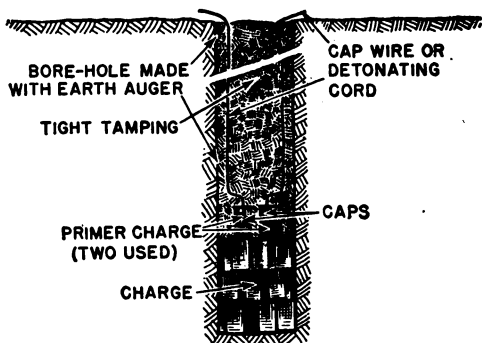

FIGURE 103.—Bore hole loaded to blow crater.
(2) After the firing wire has been tested (and repaired, if necessary) connect the free ends of the firing wire to the cap wires. Again touch the exploder ends of the firing wire to the galvanometer posts. If the needle moves along the scale, it indicates that the circuit is ready for firing if due care has been exercised to insure against shortcircuiting the cap wires while placing the charges. If the needle does not move, there is a break in the cap-wire circuit. If the needle moves only slightly, there is a place of high resistance, such as a bad joint, in the cap-wire circuit. If the caps are placed in parallel, each cap must be tested separately. Each series in a parallel series circuit must also be tested separately.
a. *Crater*.—Figure 103 illustrates how to prepare a bore-hole to blow a crater with TNT. The depth of the hole is determined by the officer in charge. In place of the TNT blocks, one or more ammonium nitrate cratering charges may be used.